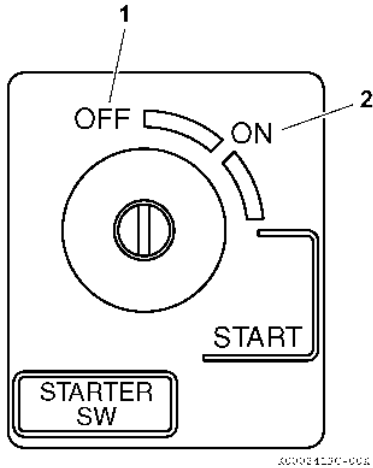

Figure 55
4. Turn the key clockwise from the OFF position (**Figure 55, (1)**) to the ON position (**Figure 55, (2)**).